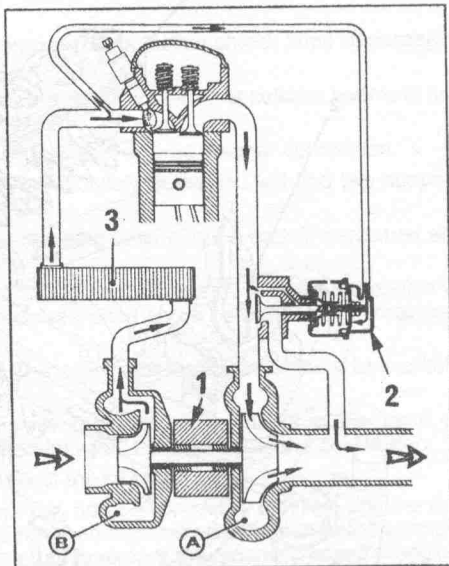

Fig. 1.95. — Layout of the turbo charger system. The two chambers (A) and (B) are referred to in the text.
The turbo charger is a separate component mounted on the engine, which by means of a turbine increases the amount of air in the cylinders. Fig. 1.95 shows a
sectional view of the turbo charging system as fitted to an XUD11 engine. The turbo charger fitted to the range of XM engines is either made by Mitsubishi or Garret. The turbo charger is made up of two chambers. Chamber (A) in Fig. 1.95 is connected to the exhaust system, chamber (B) is connected to the inlet air. Two turbine wheels, one in each chamber, are mounted on a single shaft. The exhaust gases drive the turbine wheel in chamber (A) which in turn drive the wheel in chamber (B).